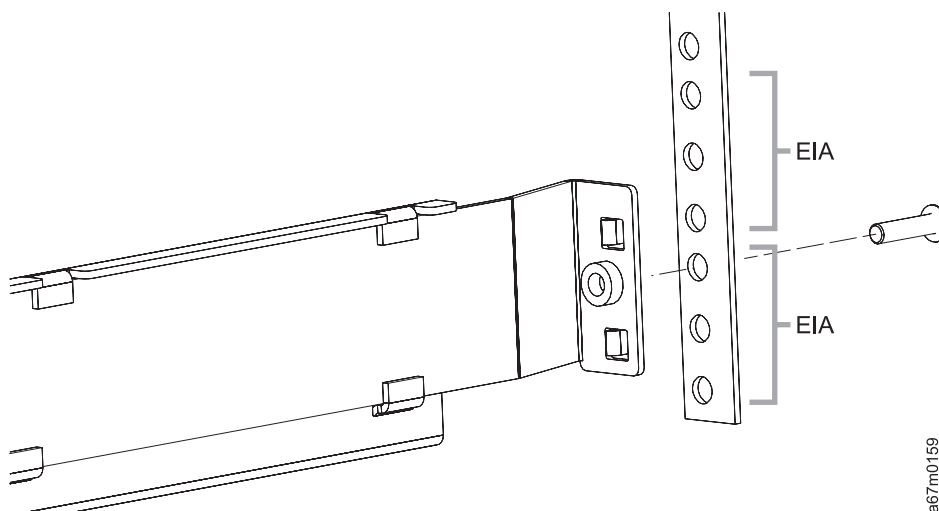

Figure 31. Attaching rails to the rear of the rack
- 4. Now screw the rear of the rail to the rack (again using a #1 Phillips screwdriver and a Rack Rail Screw). See Figure 31 on page 54. If the rails fail to reach the back of the rack, extend the rails to the required length.